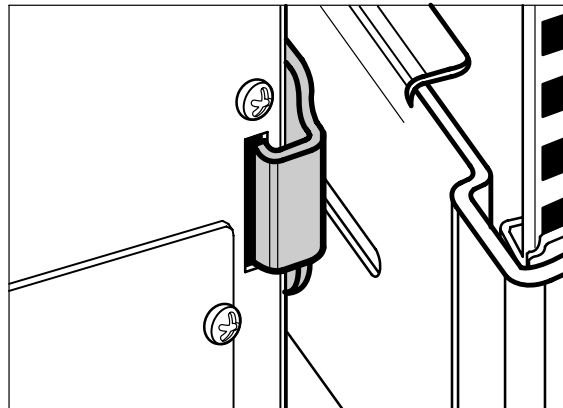

Figure 24. Inserting the Rear Hold-Down Bracket
15. Insert the two rear hold-down brackets on the rails into the slots on the rear of the cabinet (see Figure 24).